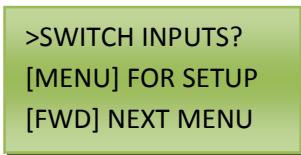

Figure 8.1
1. Press the MENU on the keypad and the screen will say >SWITCH INPUTS? See Figure 8.1 for visual example. If still in the Setup Scenes menu, just press BACK once and FWD once, to get to the >SWITCH INPUTS? Press ENTER on the keypad to setup Switch Inputs.